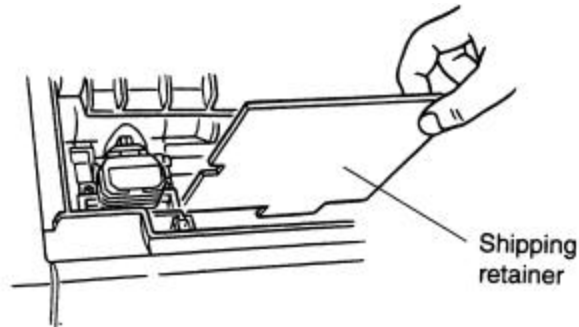

Figure 1, Shipping Retainer Removal
20. Remove the Okidata 390 Printer (0528-0032-01) from its carton. Remove all packaging tape from the lower printer and remove the carriage cover to gain access to the print head. Referring to Figure 1, ensure that the printer ribbon cartridge is installed properly and remove the plastic stop that secures the print head.